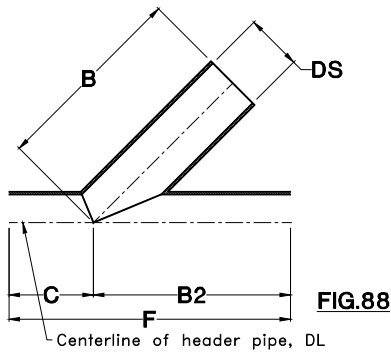

FIG.88
1. The 'B' dimension is based on header size. The 'C' dimension is based on branch size. The 'B2' dimension is based on header and branch size; e.g. 3" on 6" Fig. 88 has B=16", C=12", B2=12".